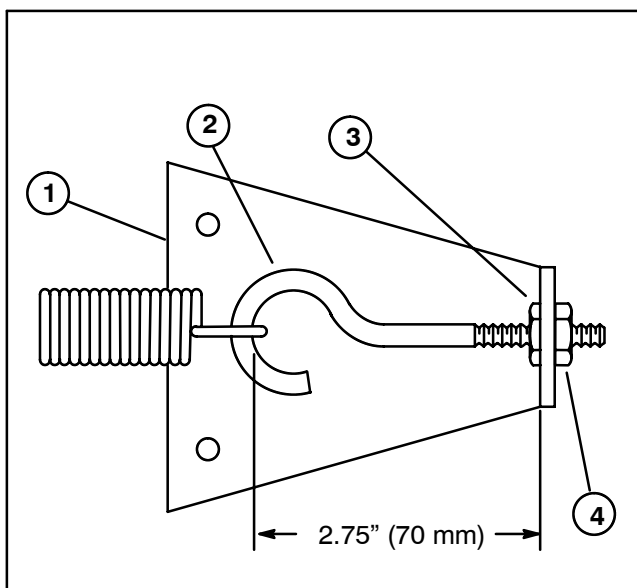

Figure 31
3. Adjust inner locknut until distance between inside of eye bolt loop and inside of spring anchor plate is 2.75" (70 mm) (Fig. 31). Tighten outer locknut.